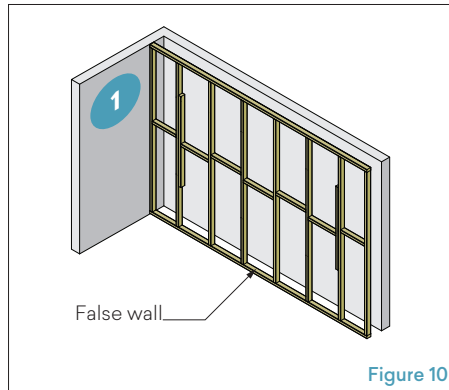

Figure 10
**1.** Erect a false wall frame adjacent to the rear wall. Fix this wall to the floor and the ceiling. (Figure 10)